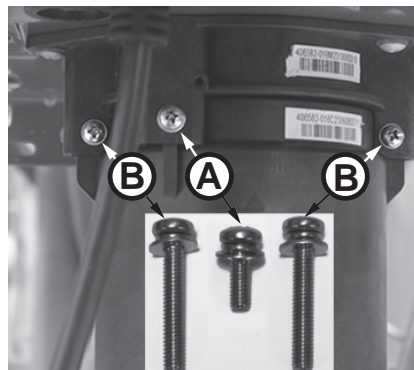

Figure 210 - Identify cartridge screws
- 6 Locate the three (3) screws securing the X3®/Bypass cartridge as shown in Figure 210. Remove the **(A)** M4-12mm screw and the two **(B)** M4-25mm screws from cartridge. Place screws aside in a safe place for reinstallation.